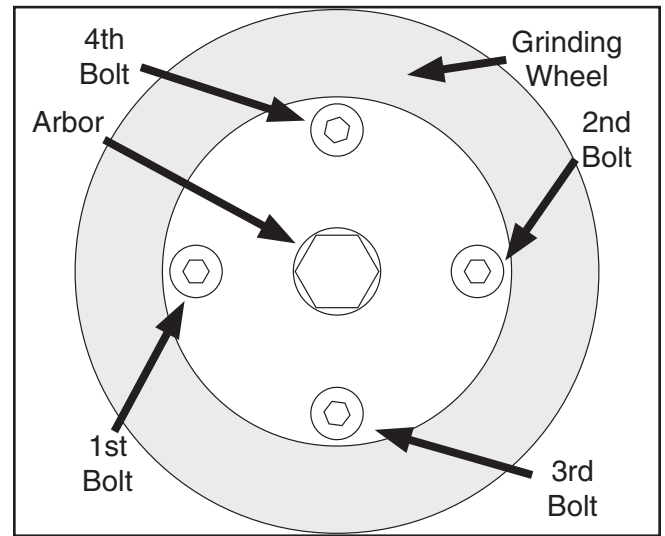

Figure 9. Wheel bolt mounting order.
7. Fasten the wheel to the connector plate with the four bolts. In order to properly balance the wheel, tighten the bolts in the order shown in **Figure 9**.